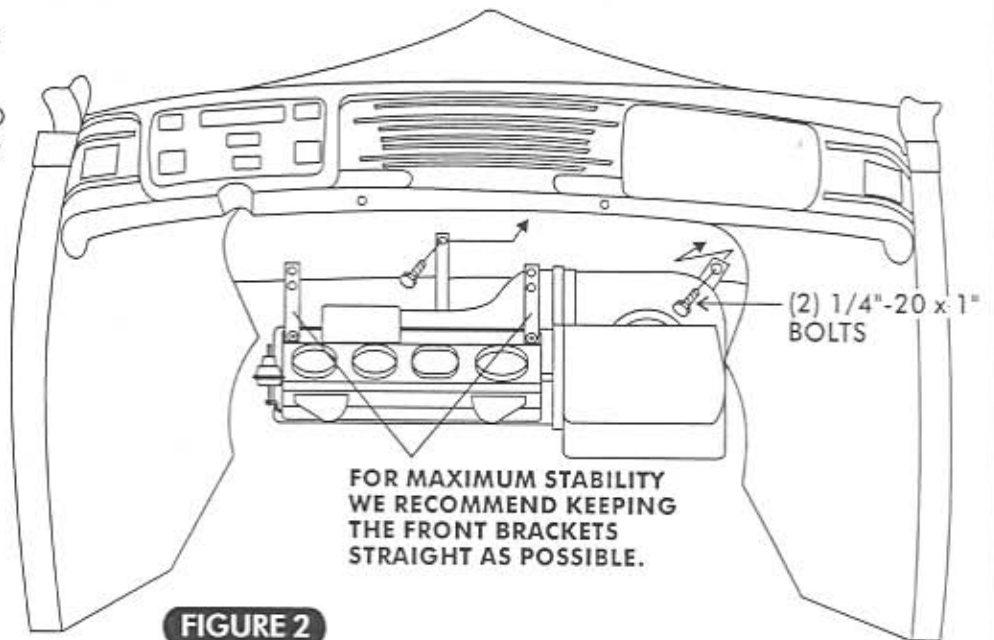

FIGURE 2
3. BRACKETS ARE FURNISHED TO MOUNT THE EVAPORATOR CASE. ATTACH TO FIREWALL AS SHOWN IN FIGURE 2.
4. THE COWL VENT HANDLE WILL WORK IF MOVED TO THE SIDE. YOU CAN ALSO CONVERT TO ELECTRIC OR CABLE OPERATION. IF YOU CLOSE OFF THE COWL VENT, THE UNIT WILL FIT HIGHER IN THE CAR. NOTE: TO MOUNT UNIT HIGHER, SIMPLY DETERMINE THE NEW LOCATION, MARK AND RE-DRILL THE BRACKET TO FIT AS DESCRIBED IN STEP 6 - FIGURE 2.
- B. ATTACH REAR BRACKET TO THE EVAPORATOR, USING (2) 1/4"-20 x 1/2" BOLTS.
6. HAVE A HELPER HOLD THE UNIT UP AS HIGH AS POSSIBLE, WITH BLOWER HOUSING AGAINST PASSENGER SIDE KICK PANEL. LOCATE THE BRACKET ON THE TOP RIGHT OF THE BLOWER HOUSING. SCRIBE THRU THE 1/4" HOLE IN THE BRACKET TO MARK THE FIREWALL. CHECK TO SEE IF THE LOCATION YOU MARKED LOOKS CORRECT AND WILL CLEAR OBSTRUCTIONS ON BOTH SIDES OF THE FIREWALL. IF SO, DRILL A 9/32" HOLE IN THE FIREWALL. ATTACH THE EVAPORATOR TO THE FIREWALL BY THE BLOWER MOTOR BRACKET WITH A 1/4"-20 x 1" BOLT AND NUT. LEVEL THE EVAPORATOR UNIT, AND USE THE 1/4" HOLE IN THE EVAPORATOR REAR BRACKET AS A GUIDE, MARK AND DRILL A 9/32" HOLE IN FIREWALL. ATTACH THIS BRACKET TO THE FIREWALL WITH A 1/4"-20 x 1" BOLT. THIS WILL LOCATE THE EVAPORATOR HORIZONTALLY. NOW SECURE THE FRONT EVAPORATOR SUPPORT STRAP TO THE UNIT WITH THE SUPPLIED 1/4"-20 x 1/2" BOLT. THIS SUPPORT BRACKET WILL ATTACH TO THE DASH MOUNT HEADER. WITH THE UNIT HELD IN PLACE (PLUMB AND LEVEL), MARK THRU THE 3/16" HOLE AT THE TOP OF THE BRACKET TO THE SHEET METAL HEADER. MAKE SURE THAT THE SPOT MARKED WILL PROVIDE A GOOD MOUNTING LOCATION FOR THIS BRACKET. DRILL 1/8" MOUNTING HOLE. SECURE THE MOUNT STRAP TO THE COWL HEADER AS SHOWN IN FIGURE 2 WITH (2) #8 x 1/2" SCREWS (SUPPLIED).